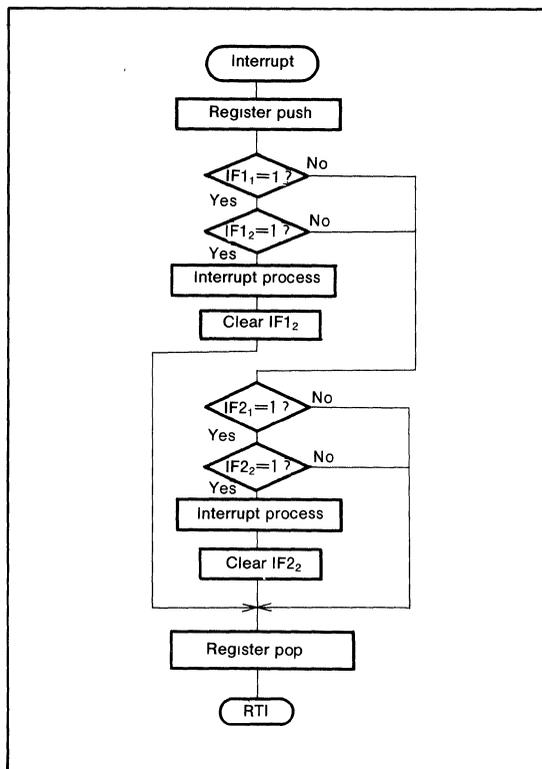

Fig. 33 Flow to write interrupt request distinguish registers
② To restart oscillation when it is stopped by STP instruction or unsystem clock operation bit, wait for a specified time which is needed for the oscillator to stabilize.
- (7) Some instructions can be used to write contents of the interrupt request distinguish register 1, 2. If the SEB or CLB instruction or a set of instruction that acts as the SEB or CLB instruction (for instance, LDA TC+SEB 7, A+STA TC) is used, an interrupt request which is input during execution of these instructions may be cleared. Therefore, these instructions should be used only when there is no problem even if such an interrupt request is cleared. Usually, the LDM instruction or STA instruction is used. Especially to write contents of the interrupt request distinguish register 1, 2, use the flow chart as shown in Figure 33.